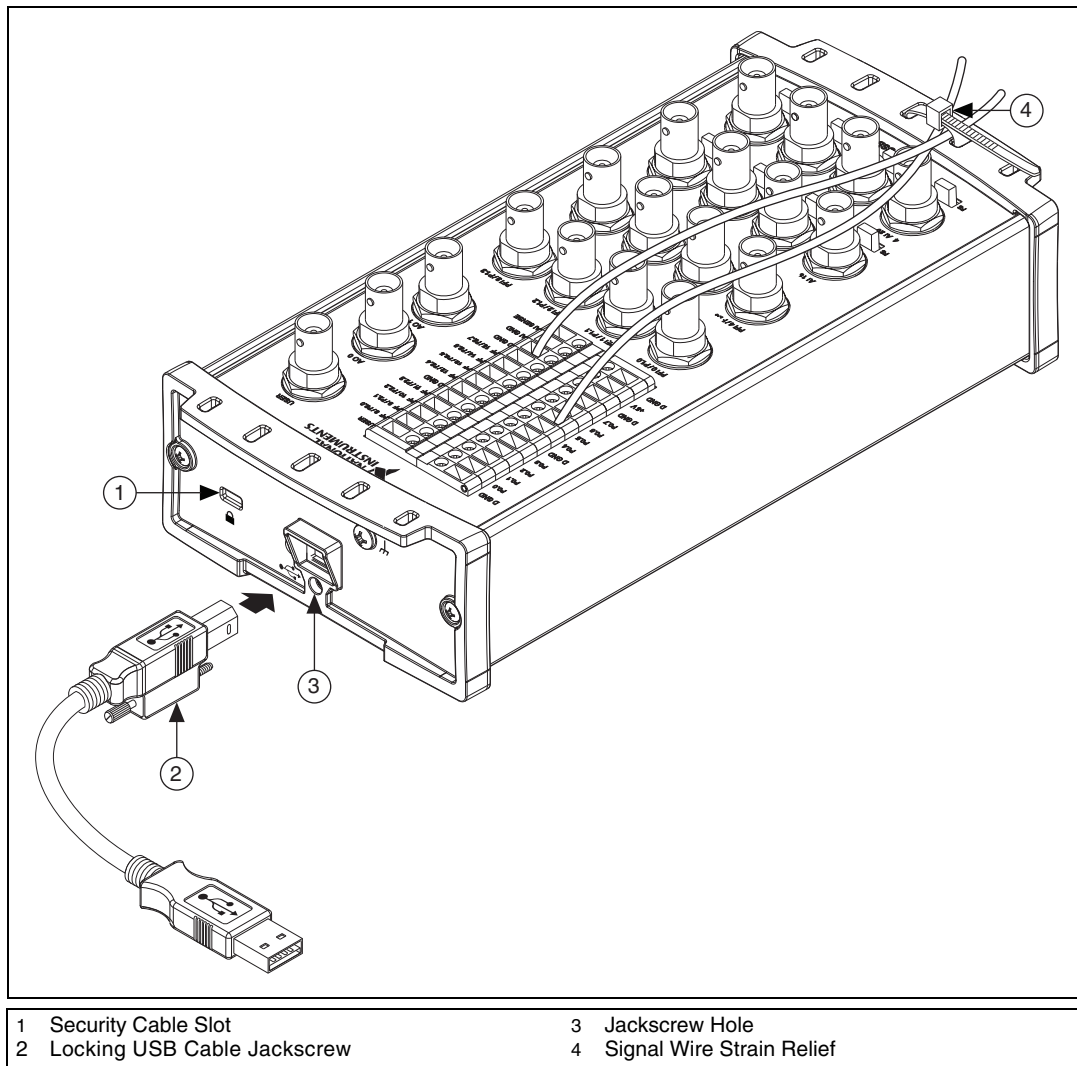

Figure 1-3. USB Cable Strain Relief on USB-621x BNC Devices
- **Locking USB Cable Method—(USB-621x BNC Devices)** Use the jackscrew on the locking USB cable (included in the USB-621x BNC kit) to securely attach the cable to the device, as shown in Figure 1-3.
Note You can provide cable management for signal wires to/from the screw terminals and BNC connectors on USB-621x BNC devices by threading a zip tie through the strain relief holes and tightening it around the signal wires and BNC cables, as shown in Figure 1-3.
(USB-621x BNC Devices) The security cable slot, shown in Figure 1-3, allows you to attach an optional antitheft device to your USB device.